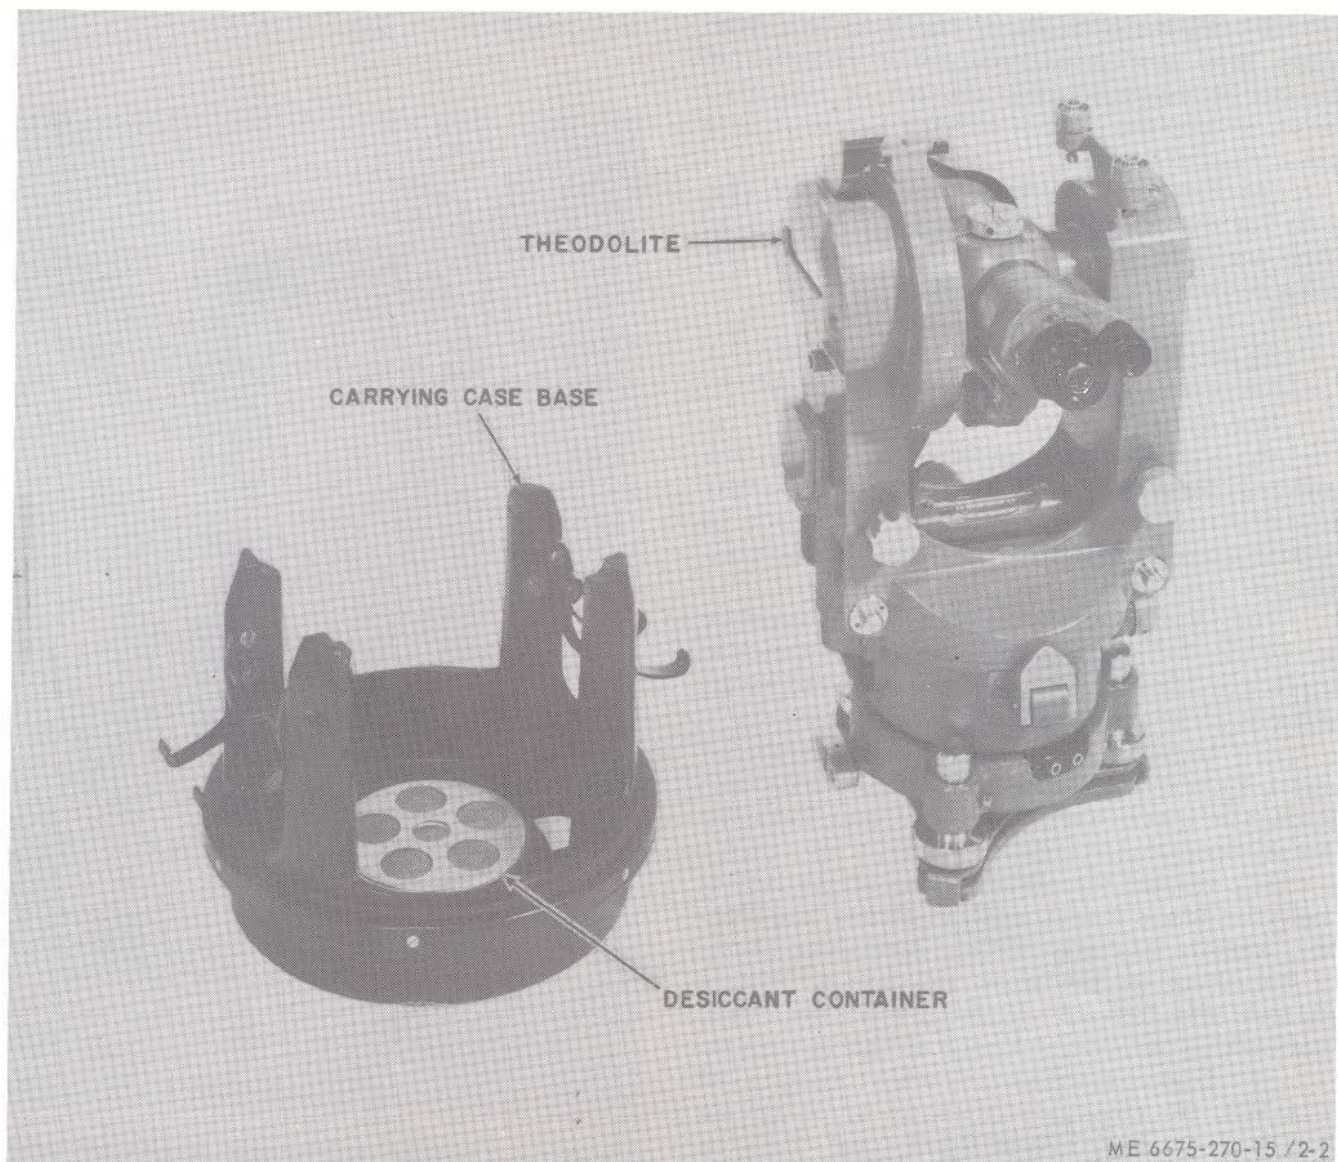

Figure 2-2. Theodolite and desiccant container with base removed.
(2) Refer to paragraph 2-2 and remove the theodolite from the carrying case.
(3) Place the theodolite (fig. 2-2) on a firm, clean, level surface and inspect it visually for broken or missing parts, cracked or scratched lenses or mirrors, loose or missing hardware, and other signs of damage.
(4) Inspect the carrying case desiccant (fig. 2-2) for discoloration. Desiccant should be blue. Pink desiccant indicates moisture saturation and must be dehydrated or replaced.